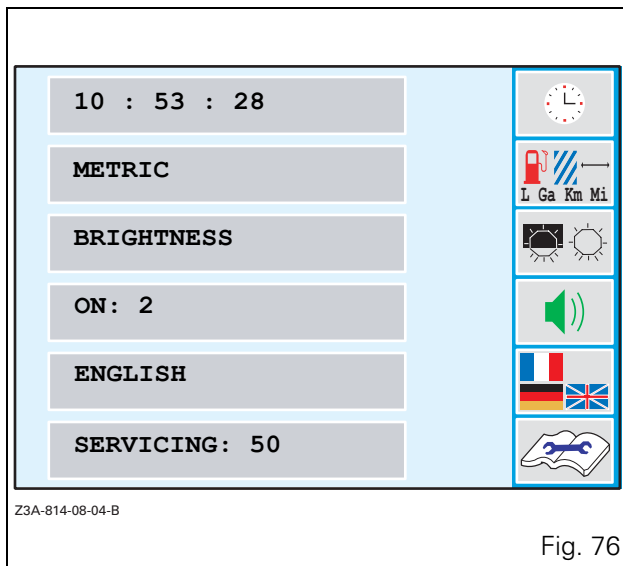

Fig. 76
- Rotate the encoder (1) to the **SETTINGS** application and press the encoder once the active function is highlighted by red text and a red rectangle around the icon, or press the key <<2 (2). The main menu (Fig. 76) is displayed.
- To exit an application, press the **ESC** key (3).
7.10.2 - Setting parameters (Fig. 76)
- Validate by pressing the encoder. The main menu is now displayed with hours and minutes set (Fig. 76).
- Select the unit adapted to the country by rotating the encoder and validate to return to the main menu (Fig. 76).
- Press the key «₃ when the window (Fig. 76) is open. The window (Fig. 80) is displayed.